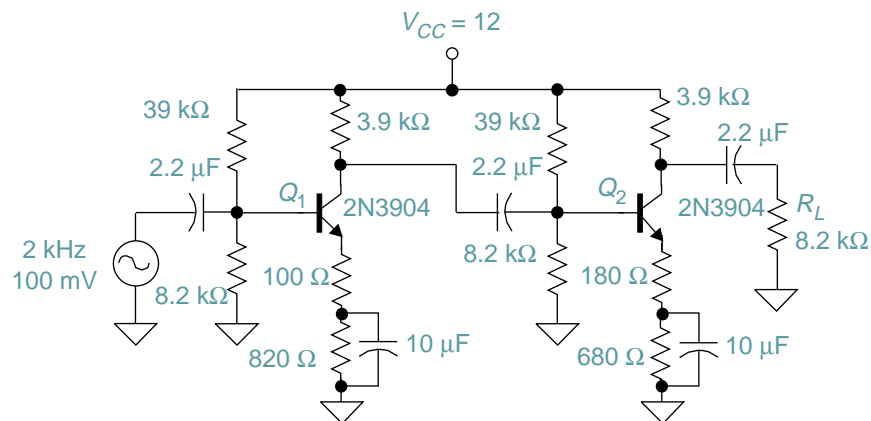

FIGURE 5-23
- Calculate and record all values listed below for the amplifier circuit in Figure 5-23.